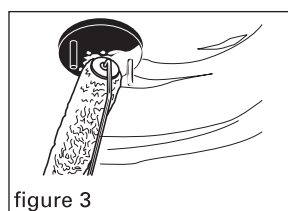

figure 3
3. Saf-T-Cap® will protect bolts, nuts, and wires during sheetrocking and painting (figure 3).